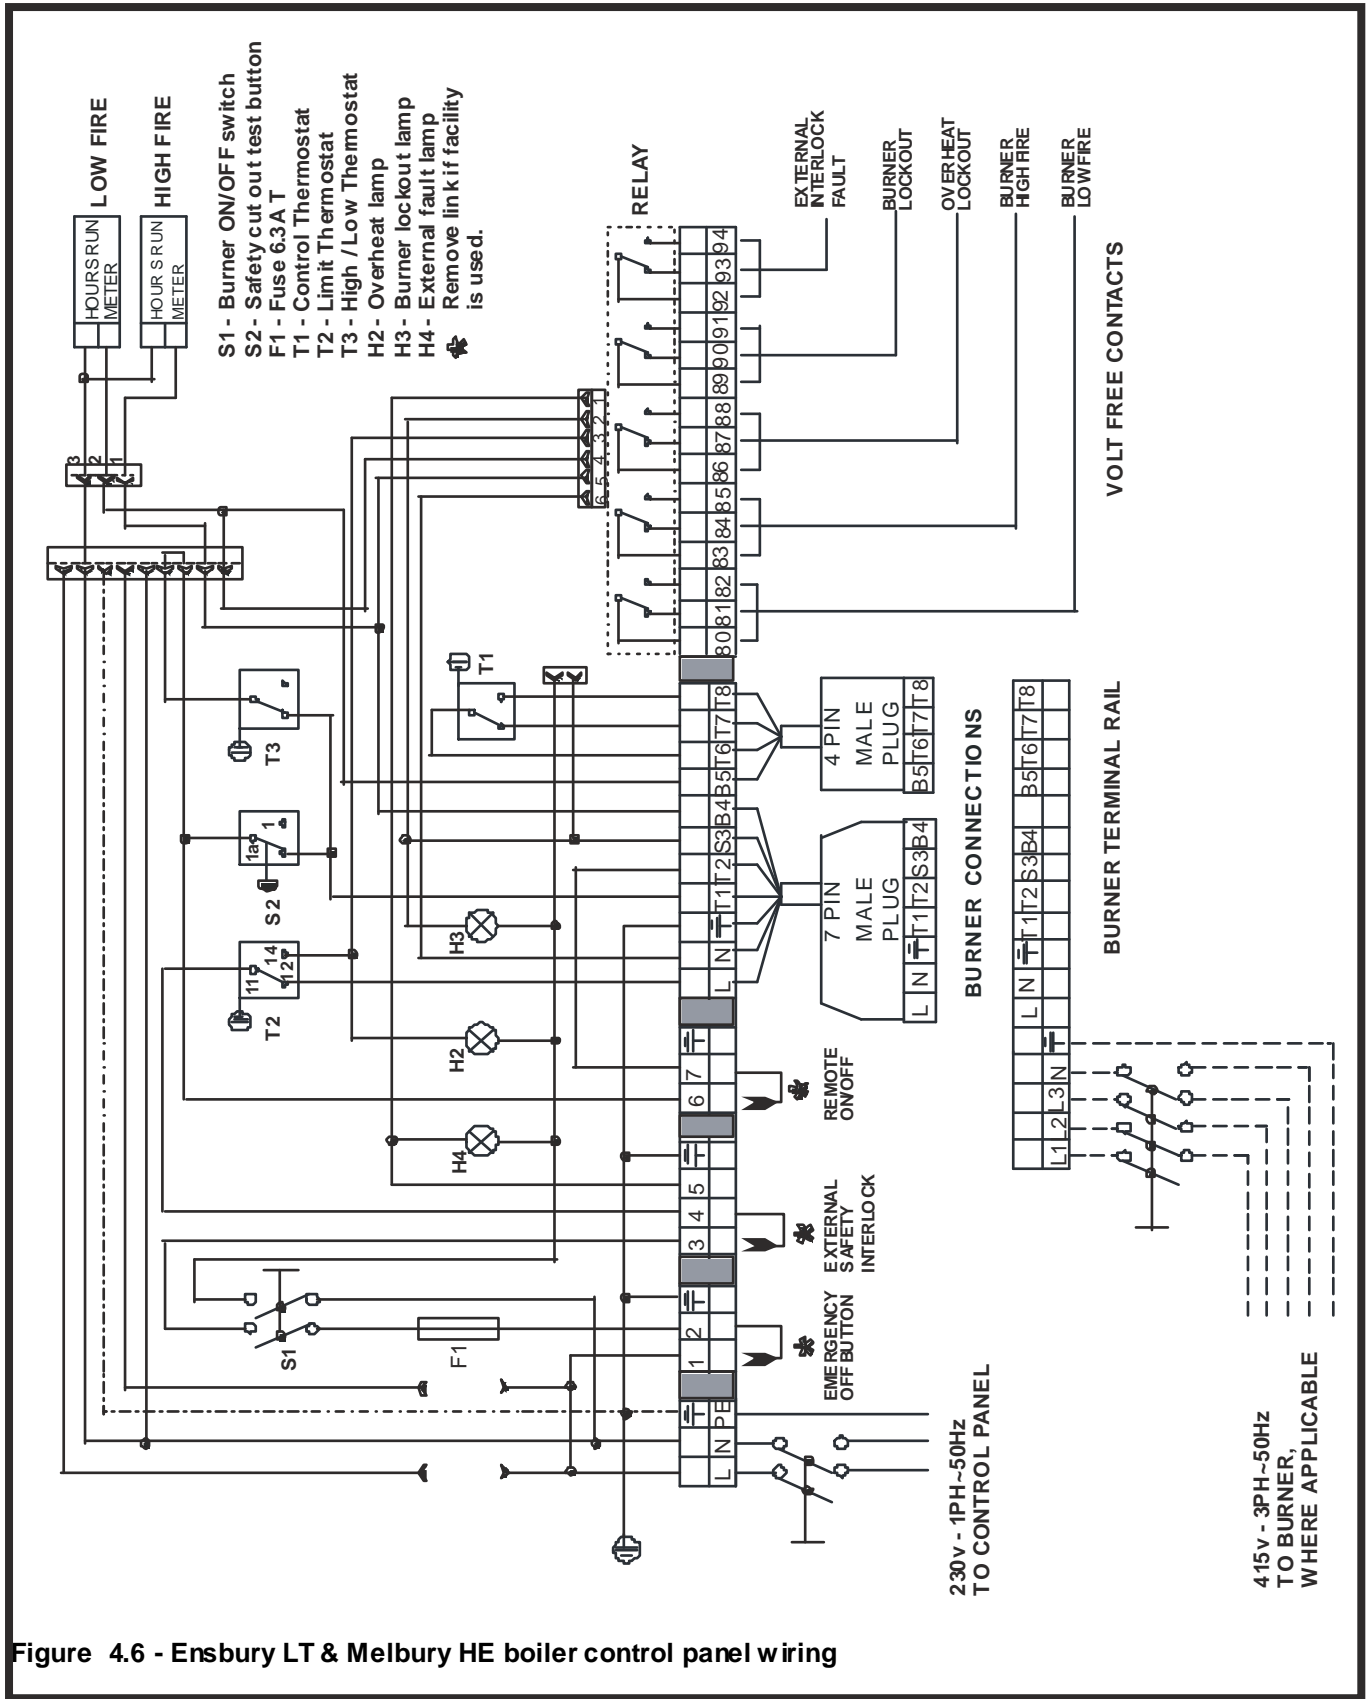

Figure 4.6 - Ensbury LT & Melbury HE boiler control panel wiring
c) Mount the control panel in a suitable location - refer to figures 4.6 & 4.7 and make the electrical connections.